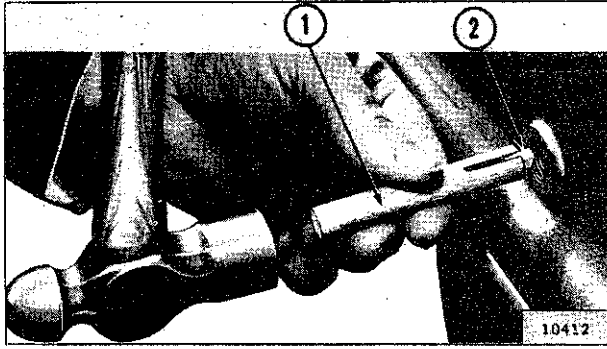

FIG. 31—REMOVING OIL PRESSURE RELIEF VALVE WITH WEDGE
- c. If the valve sticks and cannot be removed with pliers, a wooden wedge may be used. To make the wedge, cut a slit in the end of a piece of wooden dowel stock and insert a small wedge into the dowel just far enough to hold the wedge securely as shown in Fig. 31.